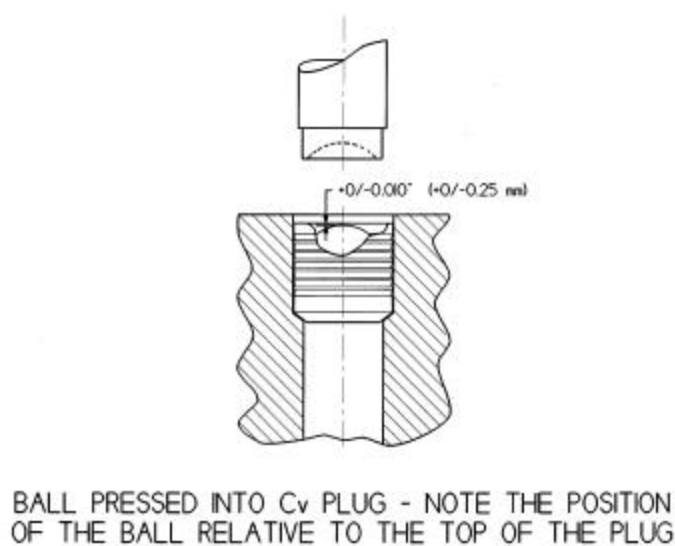

FIGURE 3
- 5.3. Caution should be used to avoid overdriving the ball into the plug. See Figure 3.